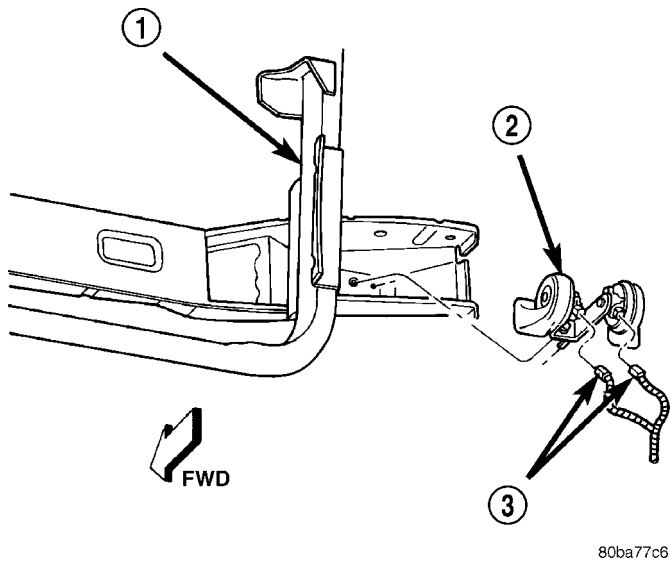

Fig. 1 Horns Remove/Install
(1) Disconnect and isolate the battery negative cable.
(2) Raise and support the vehicle.
(3) Remove the lower front half of the inner liner from the right front fender wheel house. (Refer to 23 - BODY/EXTERIOR/FRONT FENDER - REMOVAL).
(4) Reach through the front of the right front fender wheel house opening to access and disconnect the two right headlamp and dash wire harness connectors from the horn connector receptacles (Fig. 1). Be certain to disengage the connector lock tabs before disconnecting them from the horn connector receptacles.
(5) Remove the screw that secures the horn mounting bracket to the right extension of the radiator closure assembly.